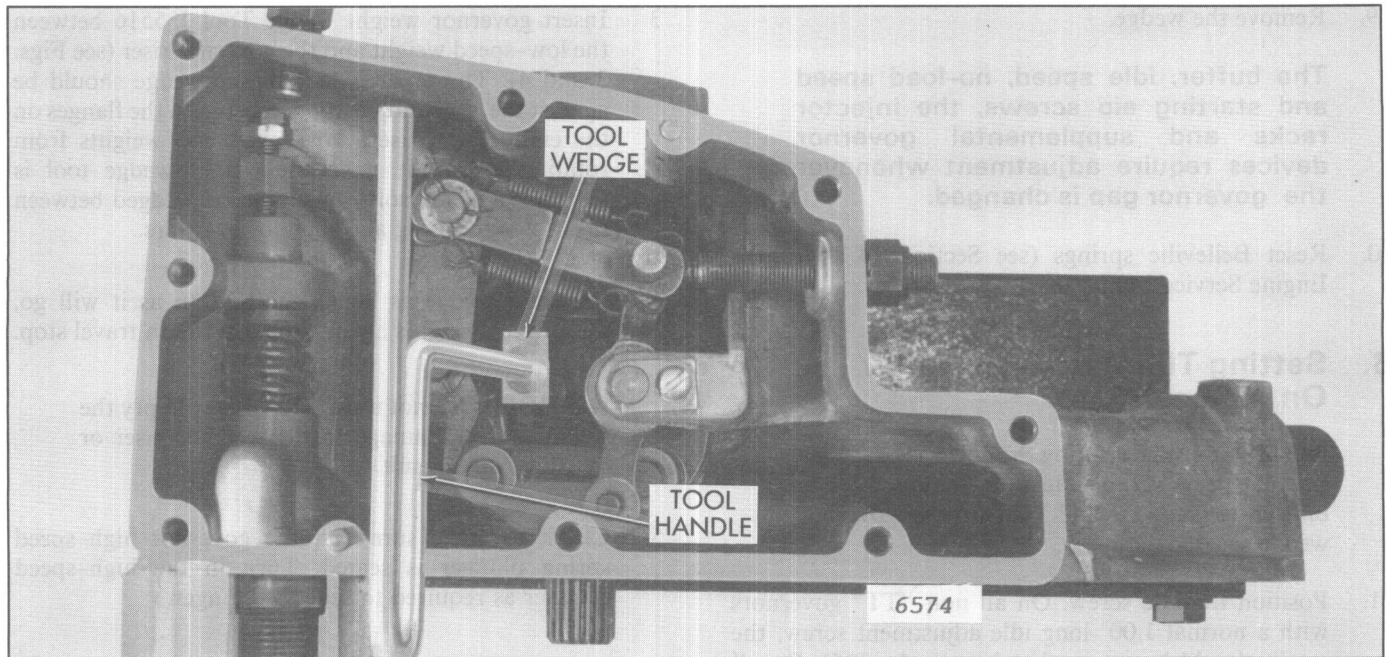

Fig. 3 – Tool J35516 Inserted Between Low Speed Weight and Riser
5. Insert governor weight wedge Tool J35516 between the low-speed weight and the governor riser (see Figs. 3 and 4). The tapered face of the wedge should be against the riser and positioned between the flanges on the ends of the riser.
3. Insert governor weight wedge Tool J35516 between the low-speed weight and the governor riser (see Figs. 3 and 4). The tapered face of the wedge should be against the riser and positioned between the flanges on the ends of the riser. To prevent the weights from rotating when the governor weight wedge tool is inserted, a clean, soft rag should be wedged between the blower housing and the blower rotors.